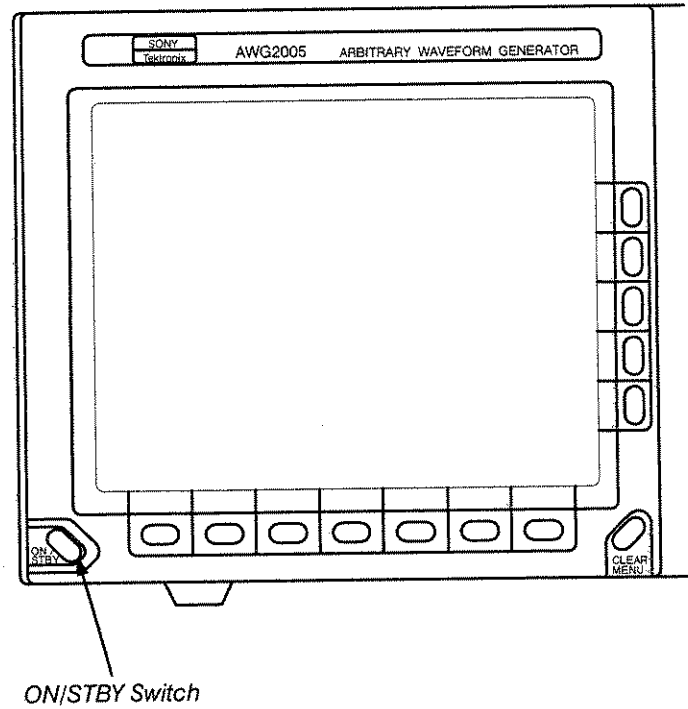

Figure 1-3: ON/STBY Switch
- **Step 7:** Press the **ON/STBY** switch (shown in Figure 1-3) on the lower left side of the front panel to switch on the power for this instrument.